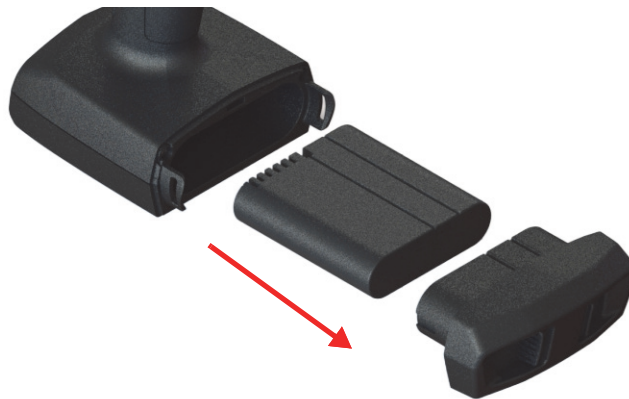

Figure 3-10 Remove the battery
2. Pull the battery out (see Figure 3-10 on page 66).